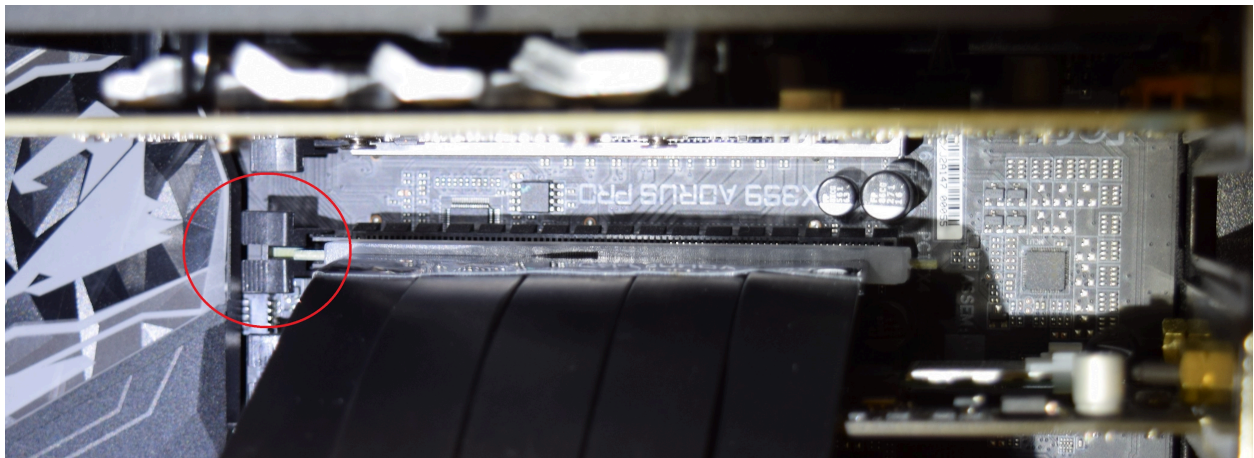

Figure 84: Connecting the PCIe Ribbon Cable to the MCAM workstation with connector lock highlighted.
- 2) Align the male end of the PCIe Ribbon Cable with the port on the motherboard of the MCAM workstation with the locking flap on the left side (Figure 84). The PCIe port is located just below the graphics card and above and to the right of the wifi card in the workstation. Gently press the PCIe connector into the socket making sure the connector lock engages the locking flap on the left side.